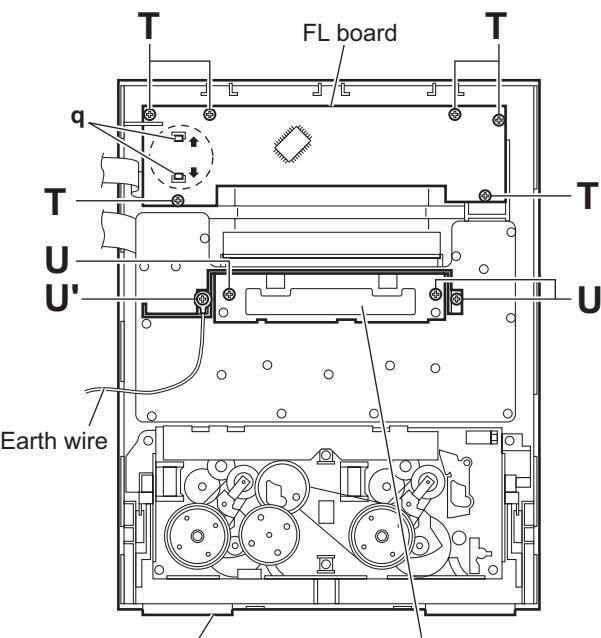

Fig.23
- (2) From the inside of the front panel assembly, remove the six screws **T** attaching the FL board. (See Fig.23.)
- (3) Release the claws **q** in the direction of the arrow and take out the FL board from the front panel assembly. (See Fig.23.)
- (2) From the inside of the front panel assembly, remove the three screws **U** and screw **U'** attaching the stay bracket. (See Fig.23.)
When attaching the screw **U'**, attach the earth wire with it. (See Fig.23.)